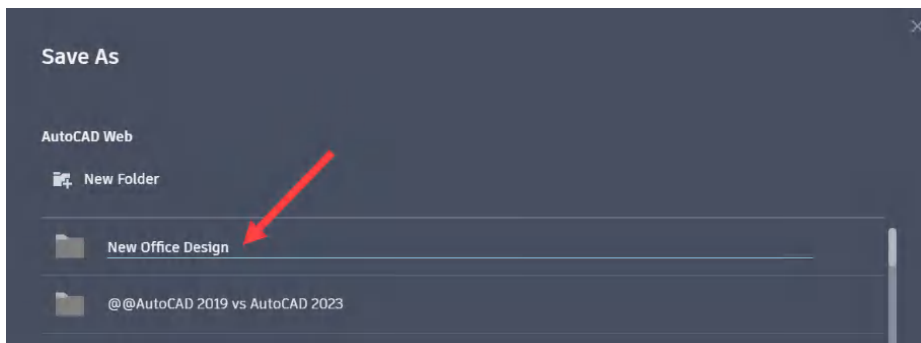

Figure 13.7: Naming the new folder as New Office Design
3. Name the new folder New Office Design, as shown in *Figure 13.7*.